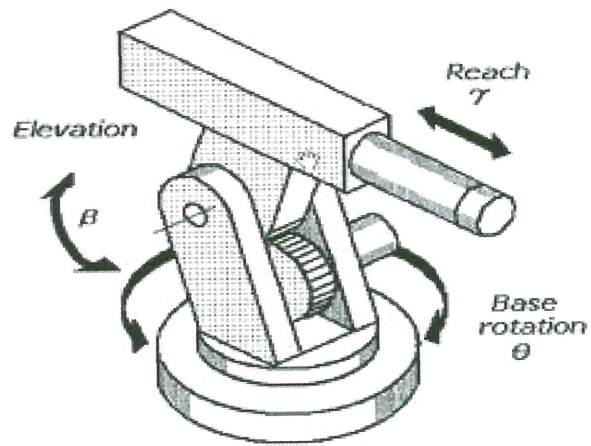
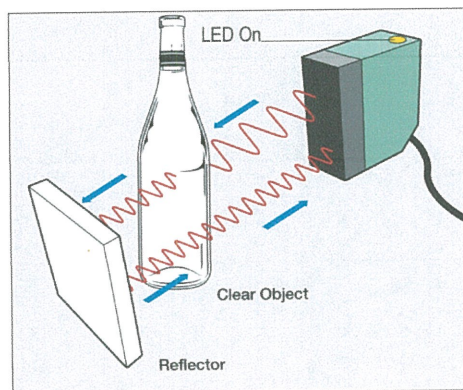

FIGURE Q1(c)
FIGURE Q2(b)
- (b) Presence-Sensing Devices is a type of safeguards. Give two (2) examples of these devices and describe the functionality for each of them.
- (c) Refer to **Figure Q1(c)**.
- (i) List three (3) types of actuator.
- (b) Proximity sensors and photoelectric sensors are grouped into non-contact sensor. **Figure Q2(b)** shows a clear bottle pass by a sensor in production line. Explain the operation of sensing the bottle by the sensor regarding of choose the appropriate type sensor and functionality.